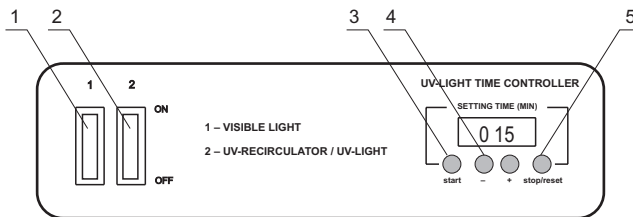

Fig.1. Control Panel
4.2.2 Turn ON *switch 2* (Fig.1/2). This automatically turns on the UV-recirculator with the hidden UV-lamp and activates the timer of open UV-lamp. The UV-recirculator will operate all the time until *switch 2* is turned OFF.
4.2.3 Use the timer keys **+** and **-** (Fig.1/4) to set the time of direct UV light exposition of the working place:
4.2.4 Press the key *Start* (Fig.1/3), the open UV lamp automatically will be turned ON and timer starts counting up the exposition time.
Note: The open UV-lamp can be switched off immediately by pressing *Stop/Reset* key (Fig.1/5). The set time of exposition is preserved in the memory. (The set time won't be preserved after the complete switching off the UV-cleaner box).
- 4.3.1 Turn ON *switch 1* (Fig. 1/1) for lighting of the working place (this turns ON the white lamp).